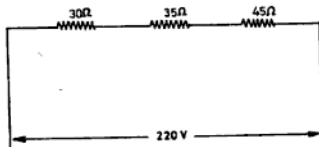

Fig. E.3.5
**EXAMPLE 3.5** Three resistors 30, 35 and 45  $\Omega$  are connected in series across 220 V mains (Fig. E.3.5). Calculate (i) total resistance of the circuit (ii) current flowing through the circuit.